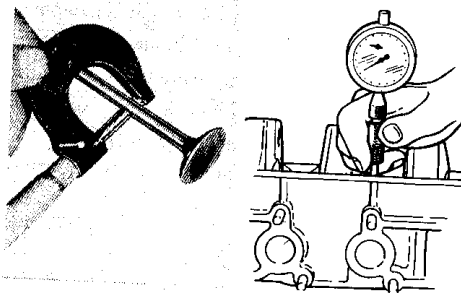
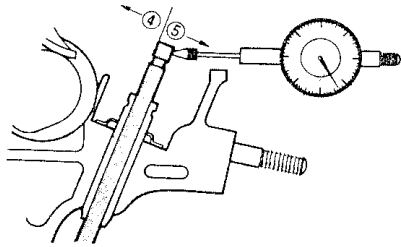

Fig. 3-58
Fig. 3-59
● Using a micrometer and caliper, take diameter readings on valve stems and guides to determine the stem clearance in the guide. Be sure to take a reading at three places along the length of each stem and guide, as shown in Fig. 3-58.
If the caliper like the one shown in Fig. 3-58 is not available, check the end deflection of the valve stem in place with a dial gauge rigged as shown in Fig. 3-59. Move the stem end in the directions ④ ⑤ and determine whether replacement is necessary or not, by referring to these limiting values;